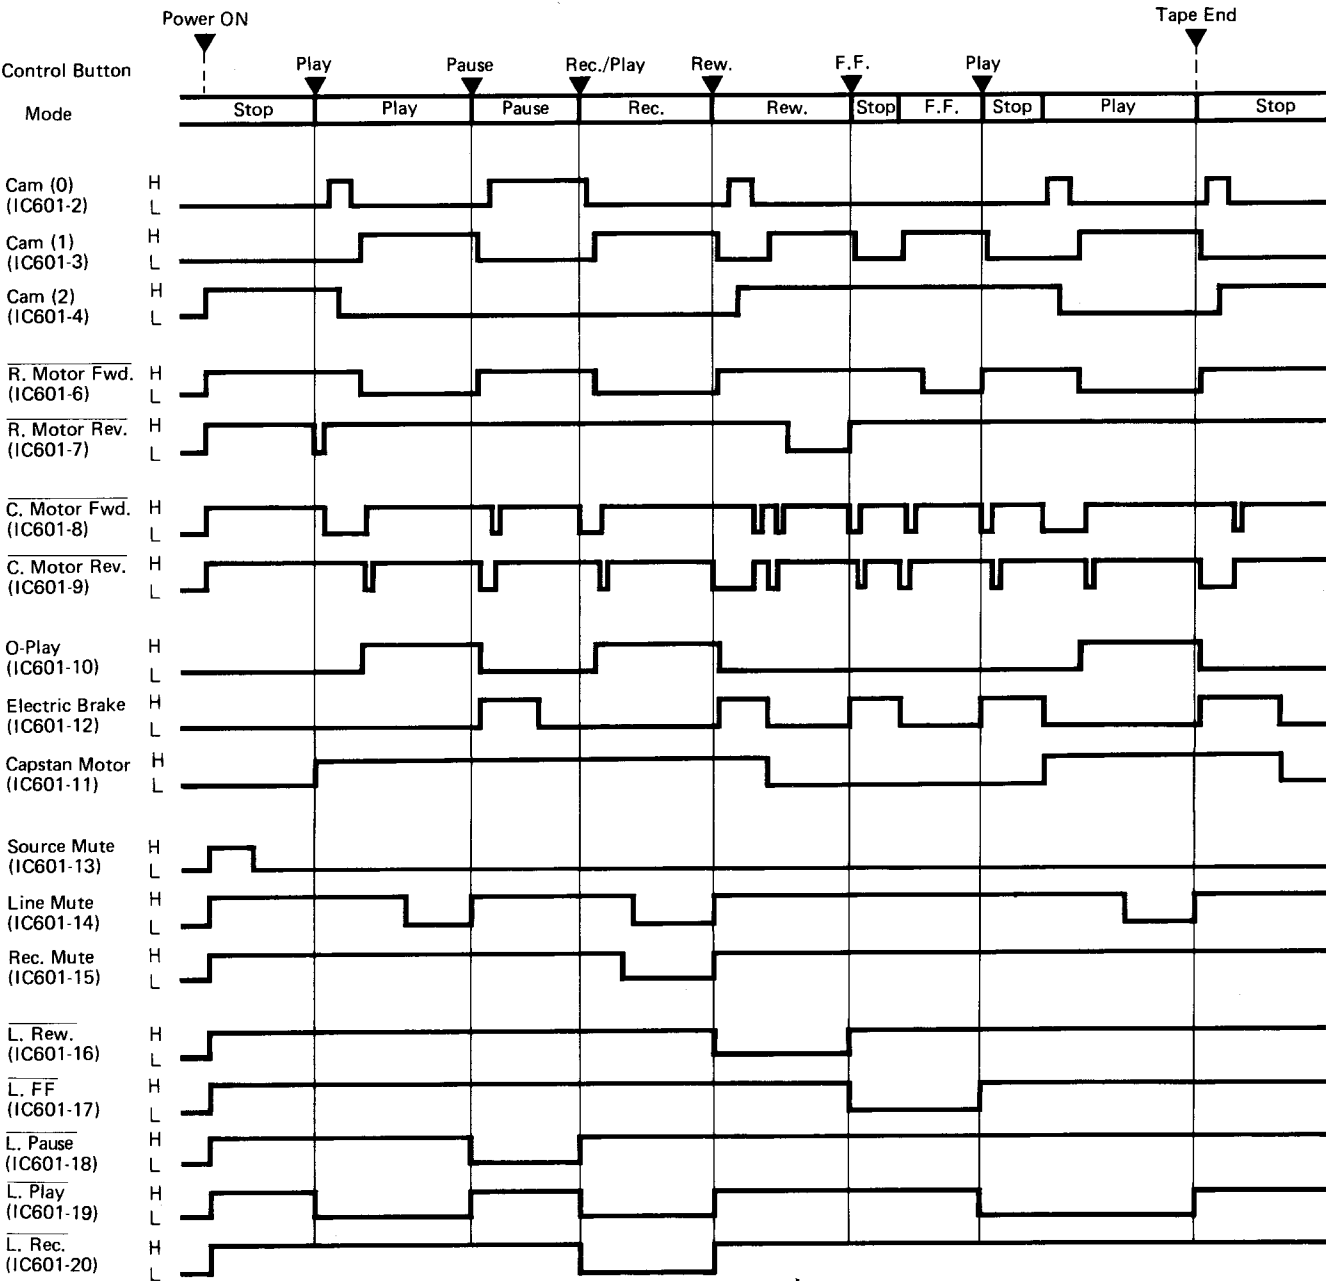

Fig. 3.1 Timing Chart of IC601 Output Signals
3.1 shows the pin numbers, signal names and functions of IC601. Fig. 3.1 is a timing chart of main signals as they appear through series of control pushbutton operations.